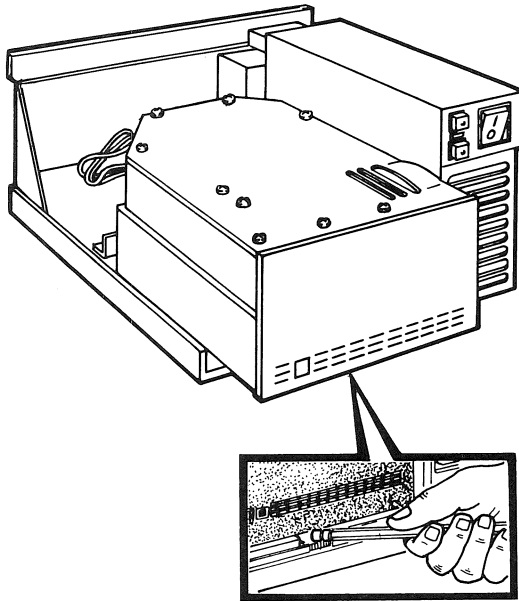

Figure 4-3 Sliding the Fixed Disk Drive Forward
4. Press the latch with a pencil and slide the fixed disk forward (see Figure 4-3).